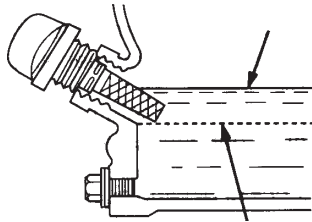

Figure 1. Engine Oil Dipstick (Oil Level)
4. If the oil level is low (Figure 1), fill to the edge of the oil filler hole with the recommended oil type (Table 1). Maximum oil capacity is 1.16 quarts (1.1 liters).